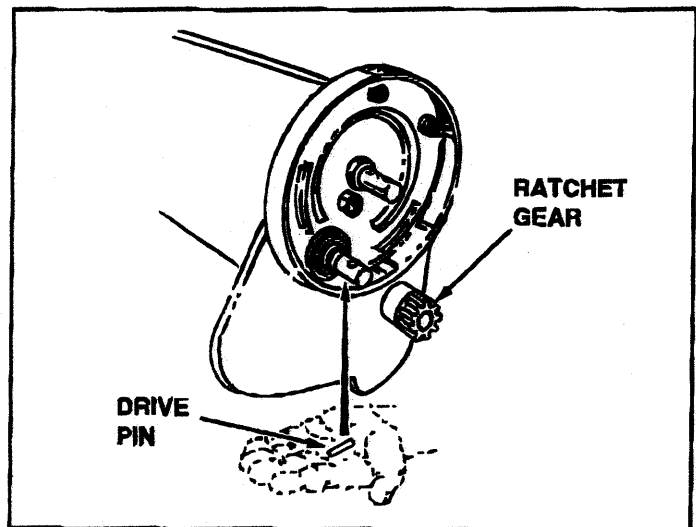

FIGURE 10
3. Remove the gear by sliding it off the brush shaft. (Look for the drive pin, which may fall out of the brush shaft when the ratchet gear is removed.) See figure 10.